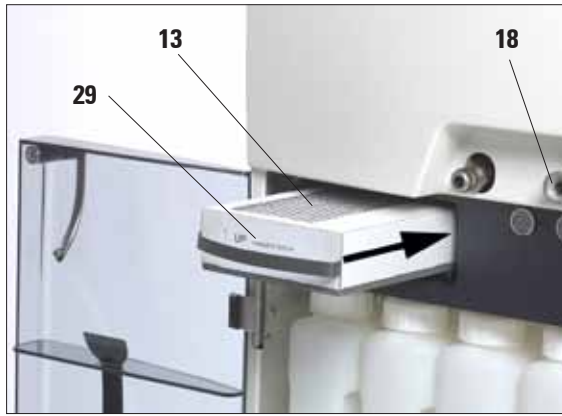

Fig. 5
- Unpack the active carbon filter (13) and insert it (see Fig. 5).
When inserting the hose into the drain opening (Fig. 5/6, 18), the connecting device (28) of the hose must engage with a clearly audible click.